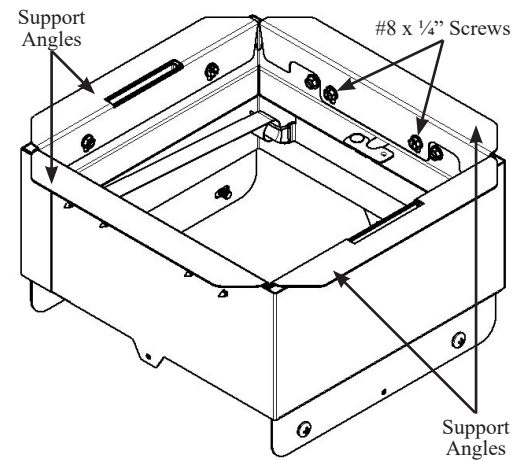

Fig. 4 - Support Angles Installation
7. After the gypsum ceiling has been installed, secure the supplied support angles to the damper frame with the supplied #8 screws using the pre-drilled holes in the frame. (Refer to Fig. 4)